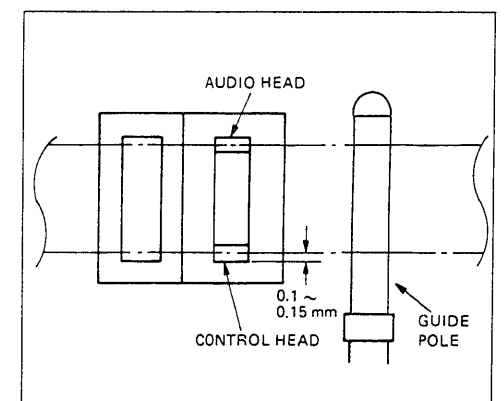

Fig. 10 Height Adjustment
- 5) Remove the adjusting jigs, load a blank tape and set the VTR to the play mode. Check that conspicuous curling or riding over of the tape does not occur around the A/C head. When conspicuous curling or riding over, etc. occurs, readjust the tilt adjusting hexagonal screw, azimuth adjusting screw and height adjusting screw. The height of the A/C head should be approx. 0.1 ~ 0.15 mm above the bottom of the control head core. (Refer to Fig. 10)